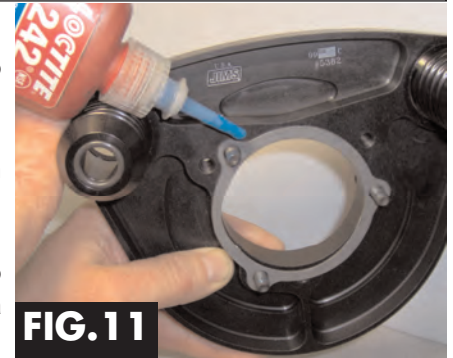

FIG. 11
- I. Apply 3 drops of blue Loctite to the first few threads of both breather bolts, No.5283. Install bolts through backing plate's breather standoffs, just snug at this time with your 7/16" socket. **See Fig 10 and Fig 11.**
L. If both ports are centered and the air filter backing plate has been manufactured with the right amount of curve for this assembly. At this point you are OK to proceed to the next step. **See Fig 11.**